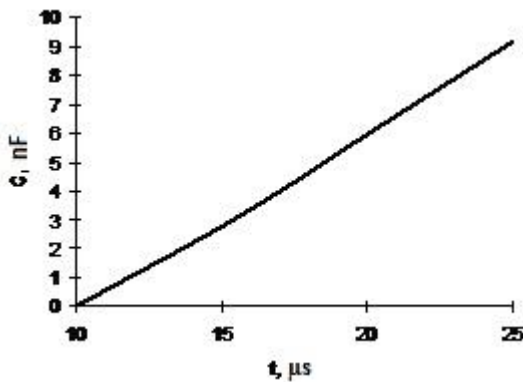

Figure 7 – Graph of smooth emergency turn-off dependence versus capacity nominal  $C_s$
**CS H1, CS H2, CS H3, CS L1, CS L2, CS L3** – adjustment capacitors of smooth emergency turn-off duration in emergency mode of relevant controlled transistor. Initially (tuning presets at supply) installed capacitors are relevant to smooth turn-off duration of 10  $\mu$ s. Duration delay dependence of smooth emergency turn-off from capacitors nominal is shown on Figure 7.